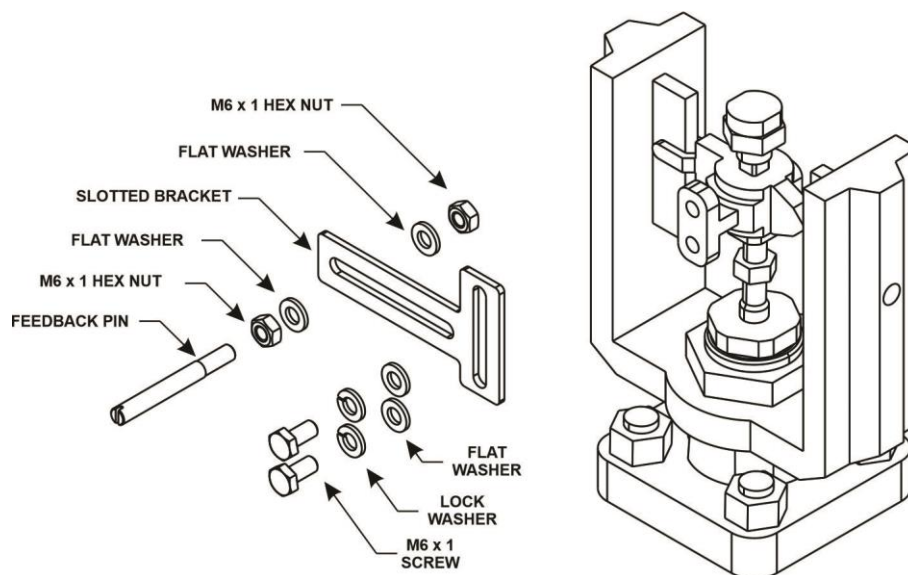

Figure 1.8 – Feedback assembly mounted on actuator stem
1. Attach the feedback pin to the slotted bracket with two M6x1 hex nuts, and two flat washers. Leave the hex nut loose for later adjustment. See figure 1.8.
2. Attach slotted bracket to the actuator stem with two M6x1 screws, two lock washers, and two flat washers, but do not tighten the fasteners because fine adjustment is required. See figure 1.8.